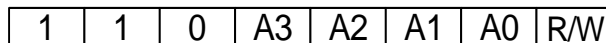

Figure 17: I²C-Compatible Device Address
Figure 17 shows an I²C-compatible device address, where A0~A3 is configured by the ADR pin. After a start (S) condition, the I²C-compatible master sends a 7-bit address, followed by an eighth data direction bit (where 1 = read and 0 = write).